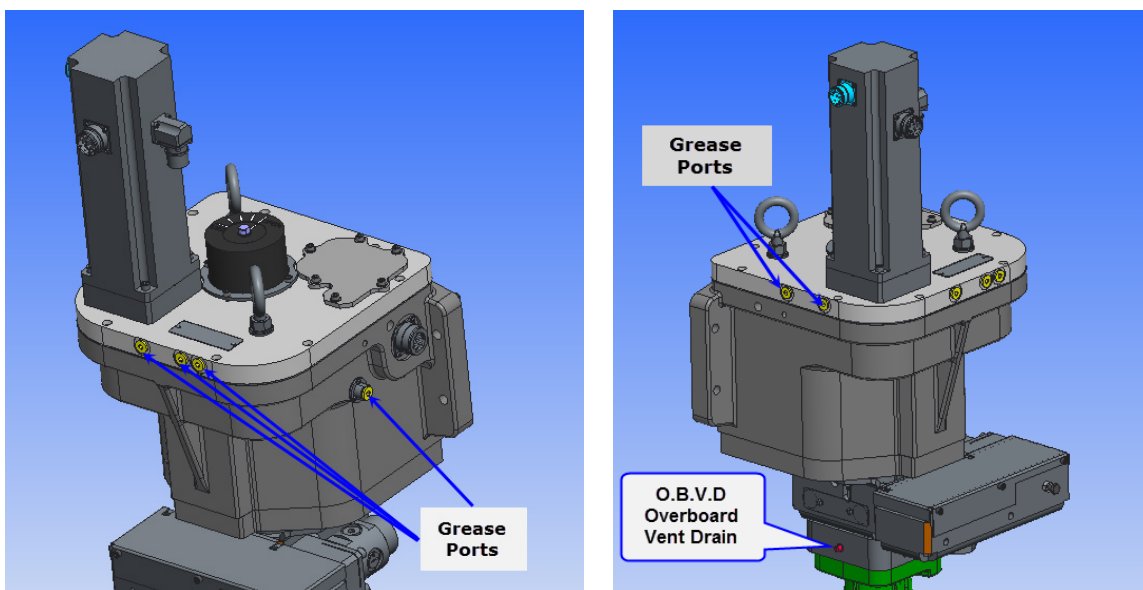

Figure 4-1. Grease Ports
2. Remove each of the 6 grease port plugs (do only one at a time all the way through this procedure and repeat for the remaining plugs until all 6 are done) with a 3/16 inch hex wrench (Figure 4-1).
4. Attach the thread connector of the grease syringe to the threaded bearing grease port. The fitting should be fully seated (Figure 4-1).